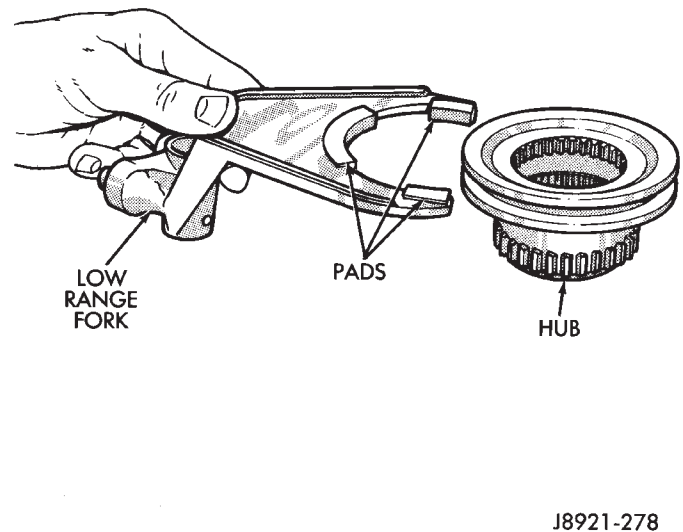

Fig. 56 Assembling Low Range Fork And Hub
(21) Install the shift sector.
(22) Install new pads in low range fork (Fig. 56).
(23) Assemble low range fork and hub (Fig. 56).